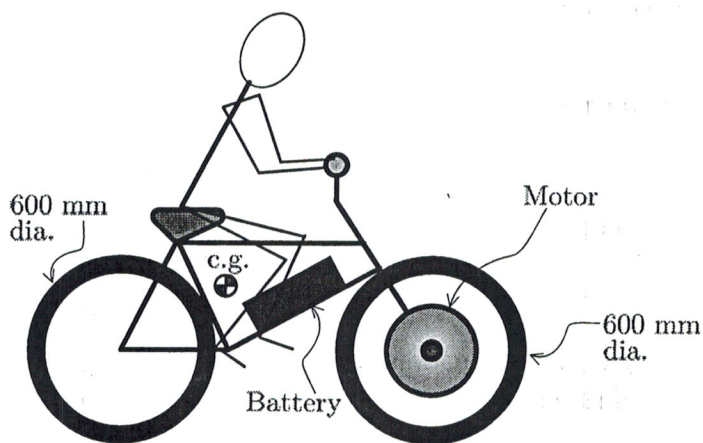
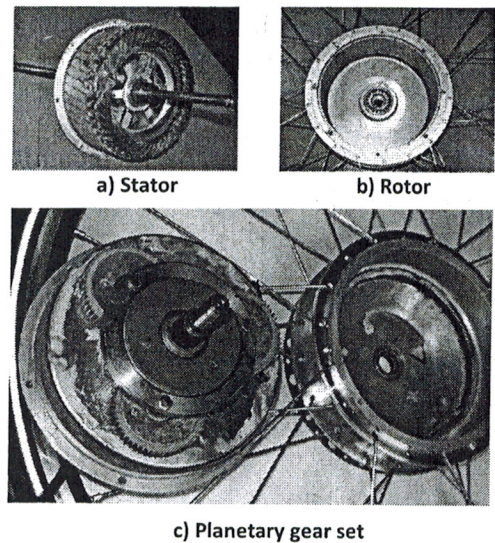

Figure 6 Electric bicycle - schematic
Figure 7 Wheel hub motor
3. The side view of an electric bicycle is shown in Fig. 6. The front wheel is driven by a wheel hub motor (Fig. 7). The type of motor is the permanent magnet (PM) brush DC motor which runs by 48 V Lithium-ion battery. The bicycle and the biker weigh 100 kg in total.
- (a) (5) If we want the bicycle to be able to drive up a 10 degrees incline with 20 Nm torque provided by the pedalling at the rear wheel axle, how much additional torque does the front wheel axle need to provide at the minimum?
- (b) (10) Assume that we want the bike to maintain 36 km/h continuous speed on a flat road without pedalling and that the no-load motor speed is 3000 rpm. As shown in Fig. 7-c), this motor is connected through the planetary gear mechanism of ratio 6:1, which produces a viscous friction torque of 0.012 Nm/(rad/s) seen from the motor. Assume that the Coulomb friction is negligible. Choose the motor power in multiples of 250 W (i.e. 250, 500, 750,...).
- (c) (15) Draw a torque-speed curve for the motor you selected in (b) and compute: i) the stall torque T_{stall} , ii) the torque constant k and iii) the stator coil resistance R . How much current does the motor consume when the bicycle is running at its rated speed on a flat road without pedalling?
- (d) (5) With the motor selected in (b), what will be the steady-state speed of the bicycle on the 10 degrees uphill with the same condition as (a) (i.e. the biker is providing the rear axle with 20 Nm torque.)?